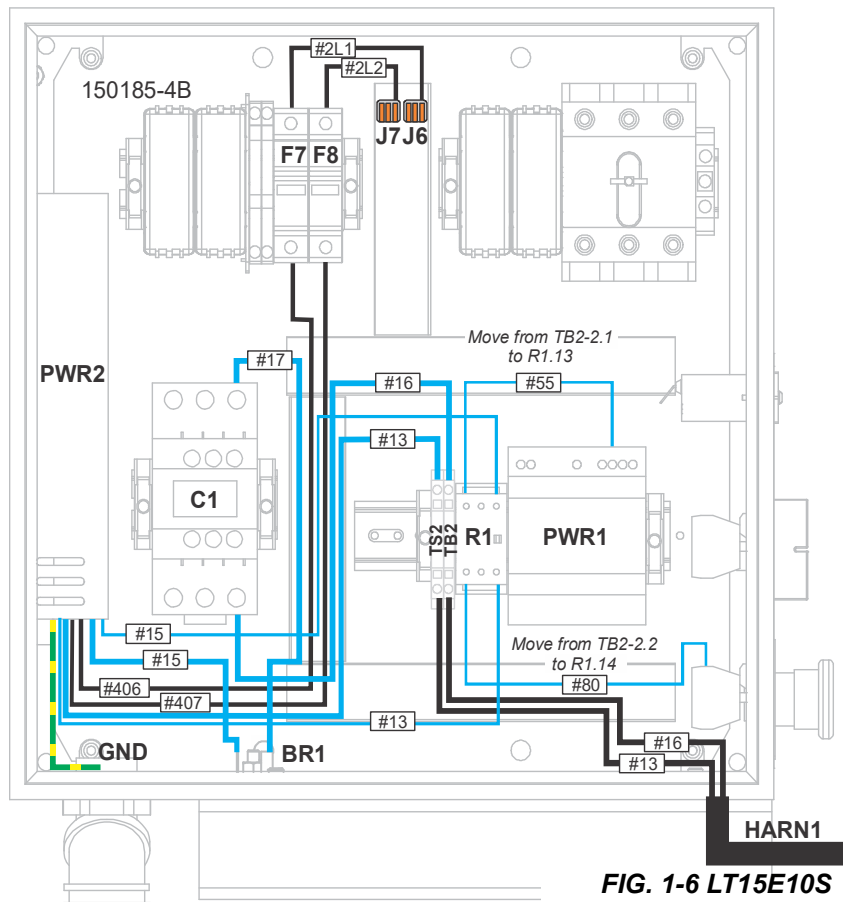

FIG. 1-6 LT15E10S
1. Remove the cable duct covers to access the control wiring. See Fig. 1-6.
24. Connect wire #16 to the bottom of the existing terminal block TB2.2. See Fig. 1-6.